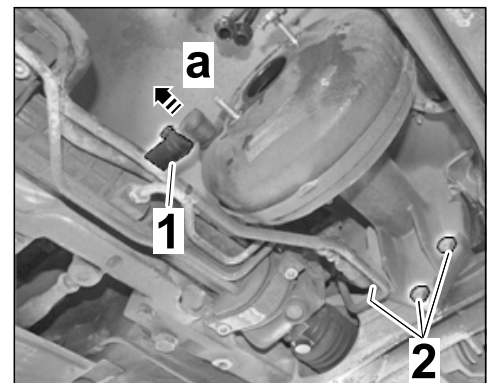

Figure 9
3.1.1 Pull vacuum hose ⇒ *Figure 9-1-* out of the brake booster ⇒ *Figure 9-a-*.